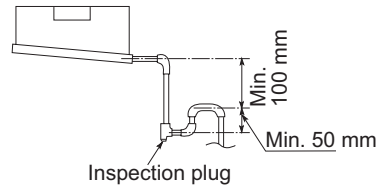

Fig. 2-121
- (5) Also, in another part of the pipe arrangement, prepare traps with an inspection plug to clean dust or debris that may cause leaking of water. (Fig. 2-121)
- (6) After connecting the drain piping, slowly pour water into the drain pan to check that the water drains smoothly.